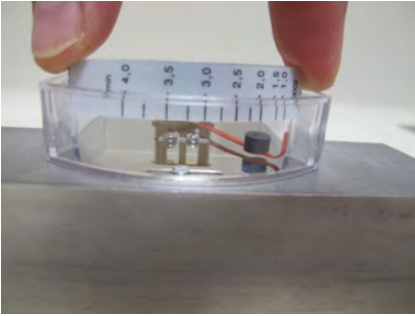

Fig. 62
14. ▶ Insert the scale support (with affixed scale) into the guides in the plastic housing (Fig. 62). Observe direction of flow (lowest scale value toward inlet side of the device).